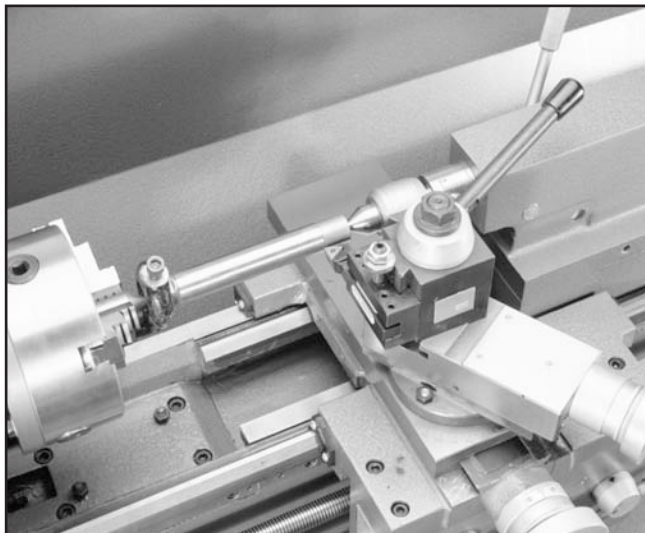

Figure 14. Bar stock mounted on centers.
4. Attach a lathe dog to the bar stock from **Step 1** and mount it between the centers (as shown in **Figure 14**).